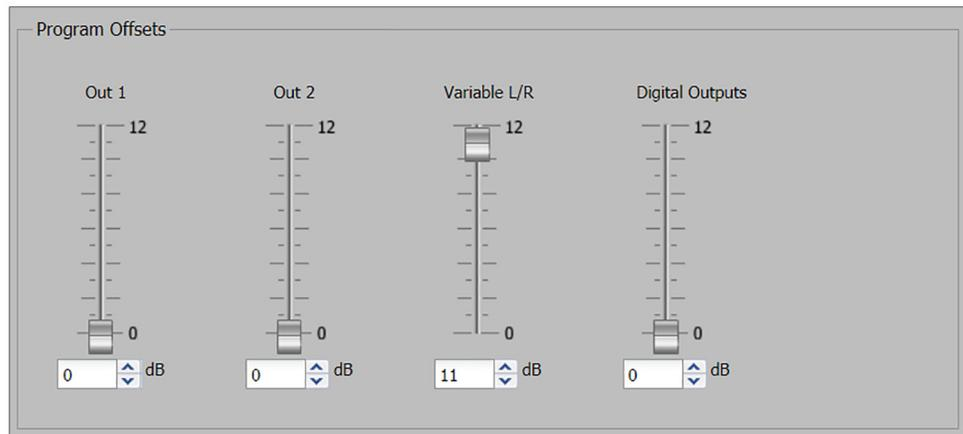

Figure 68. Program Offsets Panel
After the audio inputs have been properly configured, select the **Mix Controls** tab (see figure 68, **1**) to mix microphone levels, create a mix of the microphone and program volume, and set bass and treble settings.
1. Click the **Mix Controls** tab (see figure 68, **1**, on the previous page).
1. Click the **Mix Controls** tab (see figure 68, **1**).
1. Click the **Mix Controls** tab (see figure 68, **1**, on page 109).